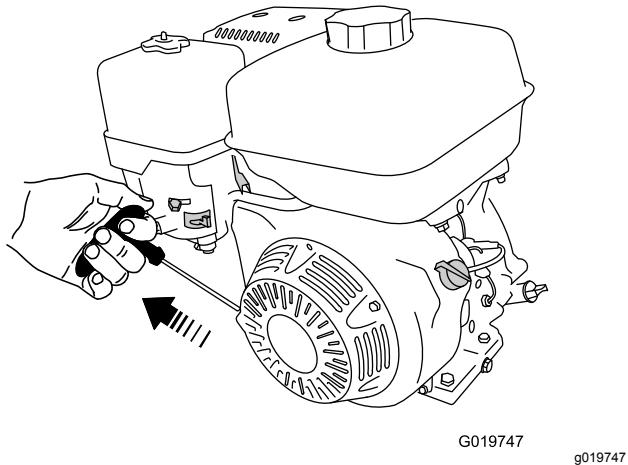

Figure 29
- Pull the starter handle lightly until you feel resistance, then pull the handle briskly (Figure 29). Return the starter handle gently.